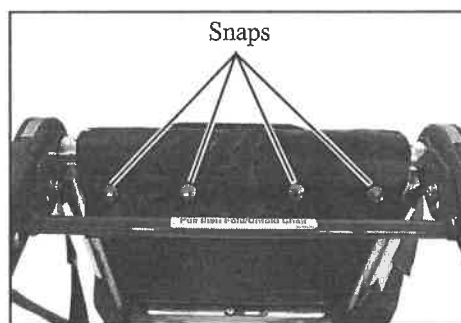

Figure 46 - Unfasten Seat Snaps
3. Unfasten the four snaps on the vinyl flap beneath the seat at the front of the chair (Figure 46).